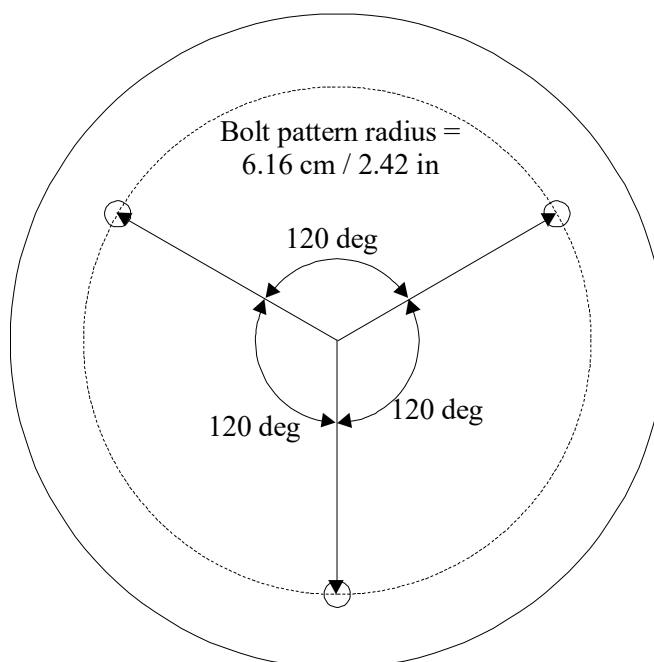

Figure 5-10. Argonaut-SL Battery Housing Bolt Pattern
- The battery housing has three threaded inserts on the bottom of the housing for easy installation. **Figure 5-10** shows the bolt pattern on the bottom of the battery housing.